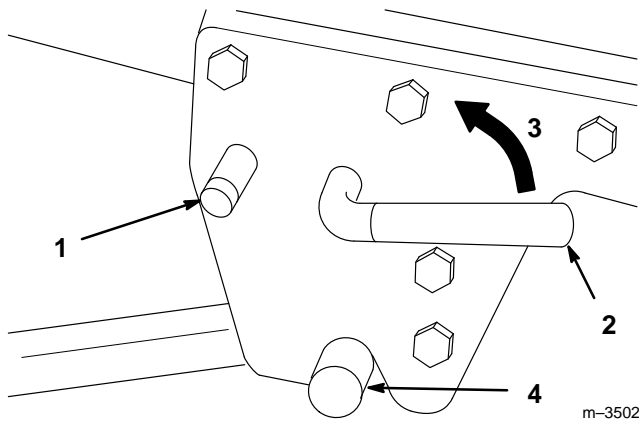

Figure 12
5. Open the latches on the mid Attach-A-Matic™. Install the larger bar at the other end of the jack shaft assembly to the mid Attach-A-Matic™. Then turn the lever of the Attach-A-Matic™ counterclockwise to lock the jack shaft assembly to the tractor (Fig. 12).